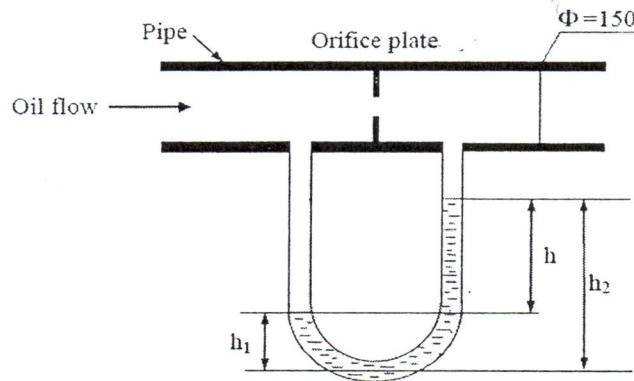

Figure 5: Turbine flow sensor
- (a) U-tube mercury manometer and an orifice plate are applied in measurement of weight of oil flowing through a pipe in an offshore production system as shown in **Figure 5**. The pipe has the internal diameter of 150 mm, and a constant k of 1.25. The difference in the mercury levels in the two legs is 50 mm. The oil density is 850 kg/m^3 , and mercury density is $13.56 \times 10^3 \text{ kg/m}^3$.